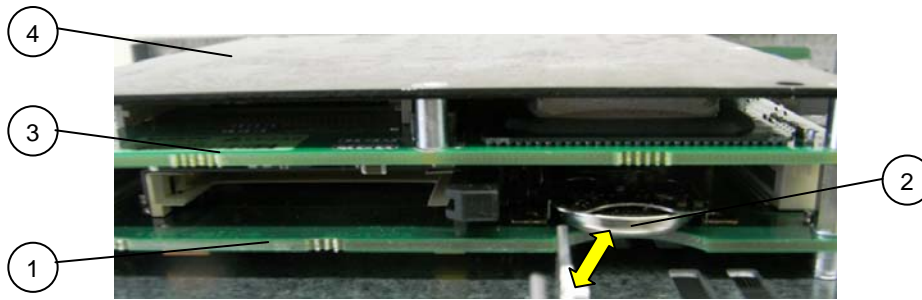

Fig. 36: Detail of opened system – Lithium battery location
2. Pull the battery (*pos. 2, Fig. 36*) outwards.